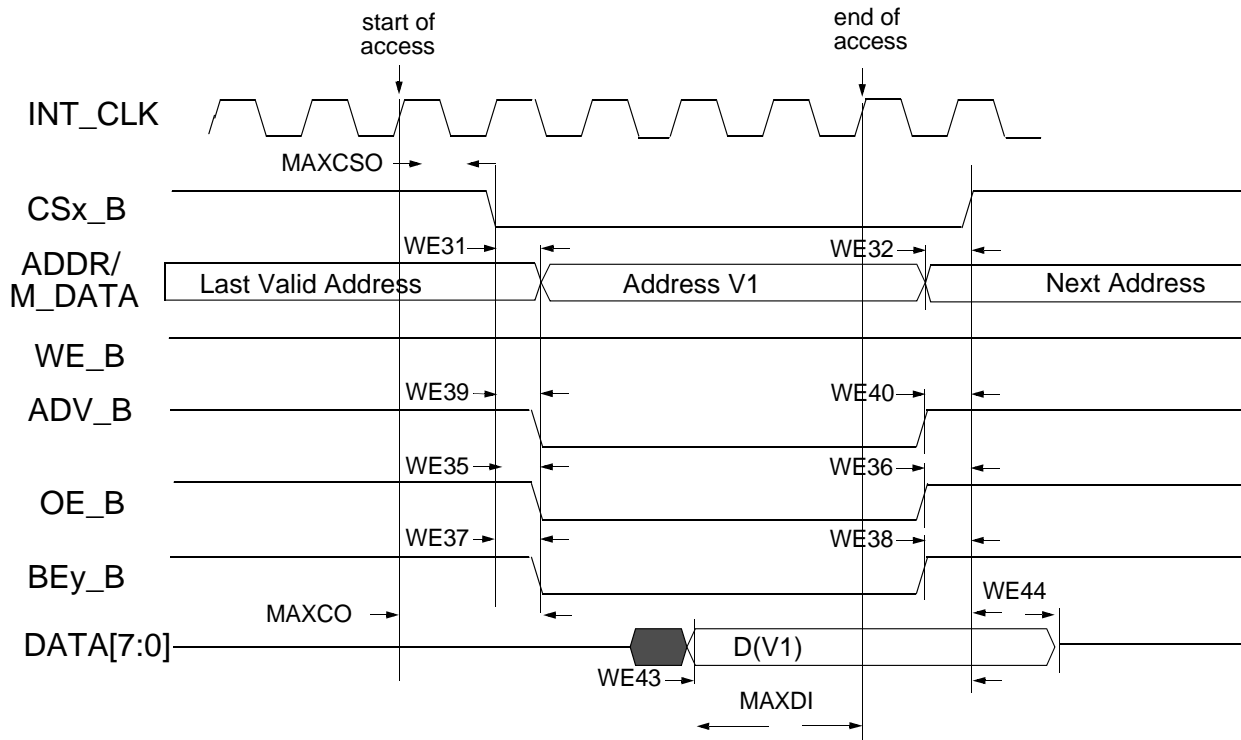
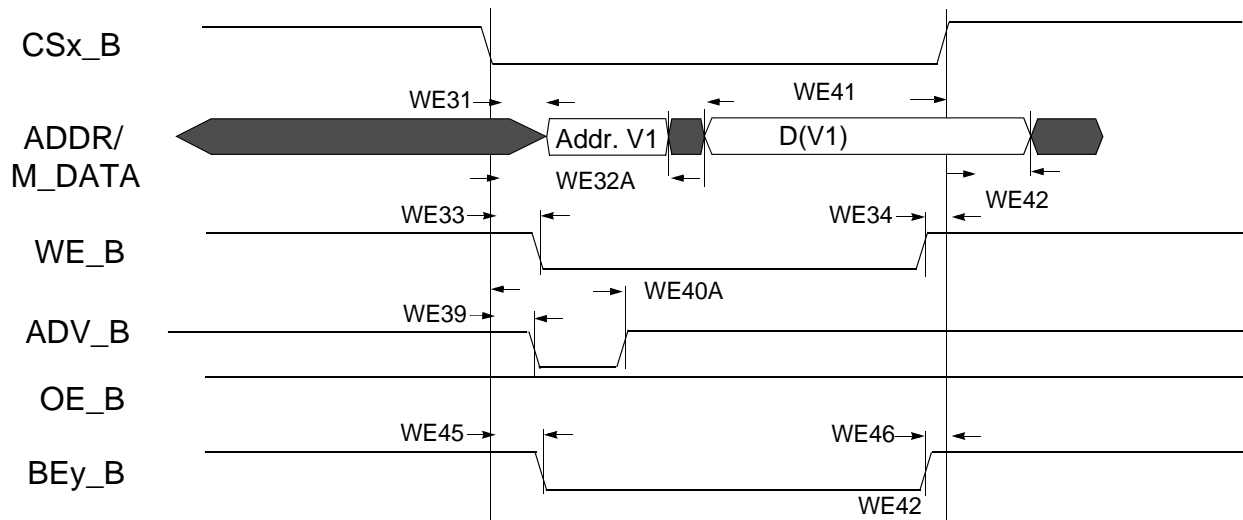
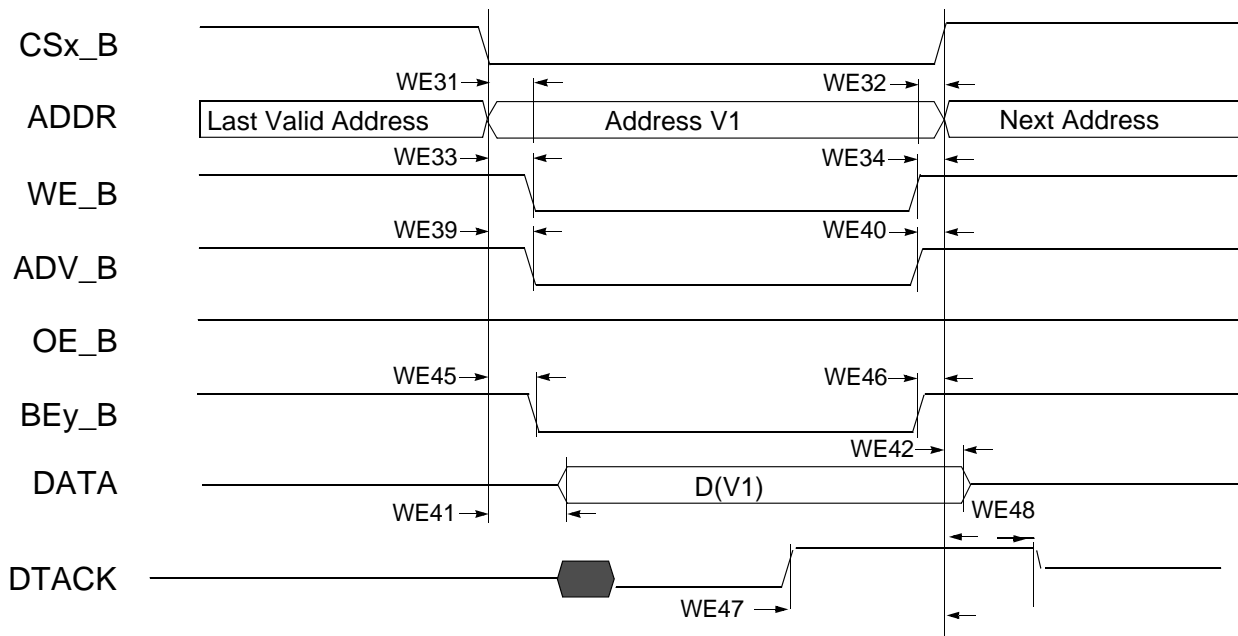

Figure 22. Asynchronous Memory Read Access (RWSC = 5)
Figure 25. Asynchronous A/D Muxed Write Access
Figure 27. DTACK Write Access (DAP=0)
Figure 22 through Figure 27, and Table 40 help to determine timing parameters relative to the chip select (CS) state for asynchronous and DTACK EIM accesses with corresponding EIM bit fields and the timing parameters mentioned above.
Asynchronous read and write access length in cycles may vary from what is shown in Figure 22 through Figure 25 as RWSC, OEN, and CSN is configured differently. Refer to i.MX53xD RM for the EIM programming model.